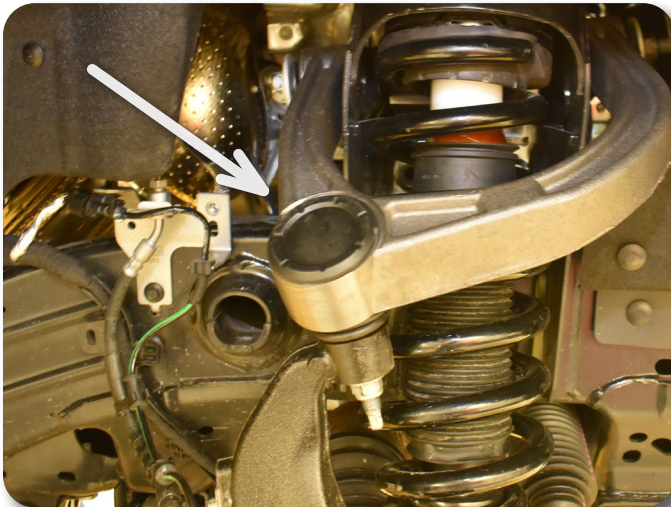

Figure 7
12. Use the included grease packet to lube the o-ring. Install o-ring onto the cap and install cap into the arm Figure 7.